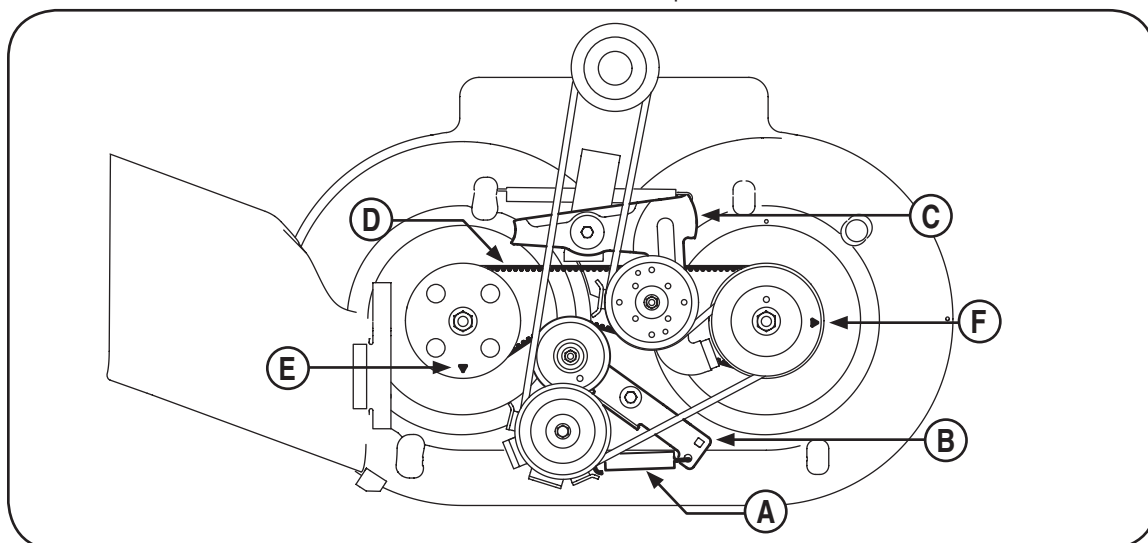

Figure 5-17: Top view of blade timing belt orientation.
4. Remove spring (A) from timing bracket and deck, Figure 5-17.
6. Pivot idler timing bracket (B) to route belt around idler pulley, Figure 5-17.
7. Pivot idler arm assembly (C) and remove belt (D) from spindle assemblies, Figure 5-17.
- a. Turn the spacer spindle assembly (E) so that the arrow punched on the spindle is facing the front of the mower, Figure 5-17.
- b. Turn the drive spindle assembly (F) so that the arrow punched on the spindle is facing to the outside of the cutting deck, Figure 5-17.